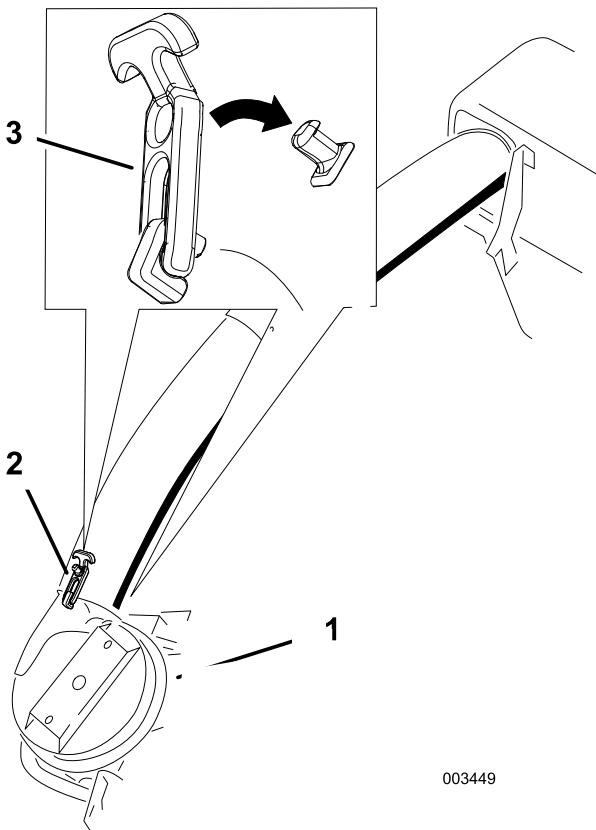

Figure 27
9. Slide the lower tube onto the boot and latch them together (Figure 27 or Figure 28).